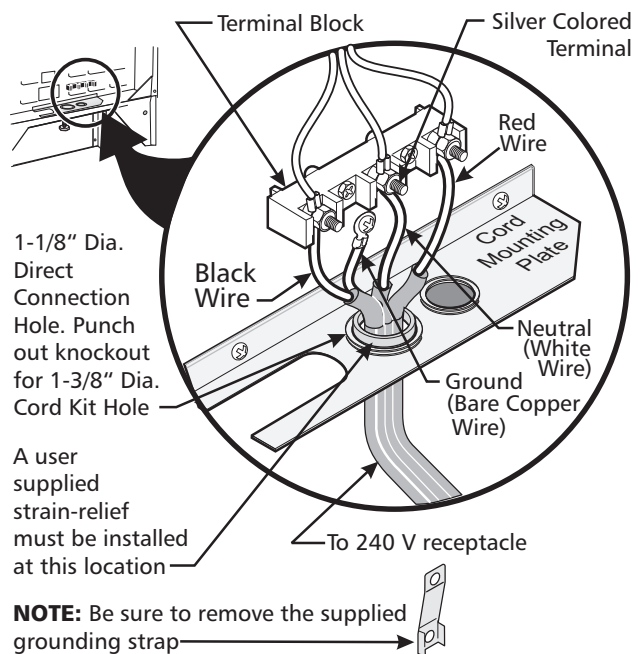

**Figure 3**
**NOTE:** Dual-fuel range is shipped from factory with 1 1/8" dia. hole as shown in figure 3. If a larger hole is required, punch out the knockout.
(The 3-conductor cord or cable must be replaced with a 4-conductor cord or cable where grounding through the neutral conductor is prohibited in new installations, mobile homes, recreational vehicles or in other areas where local codes do not permit neutral grounding) If local codes permit connection of the frame grounding conductor to the neutral wire of the copper power supply cord (see Figure 3):
- Replace the 3 nuts on the terminal block (see figure 3).